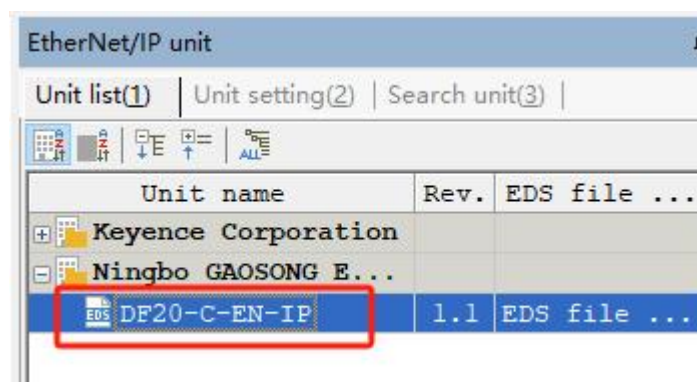

Figure 4-8
- The EDS file installation is complete as shown in Figure 4-8.